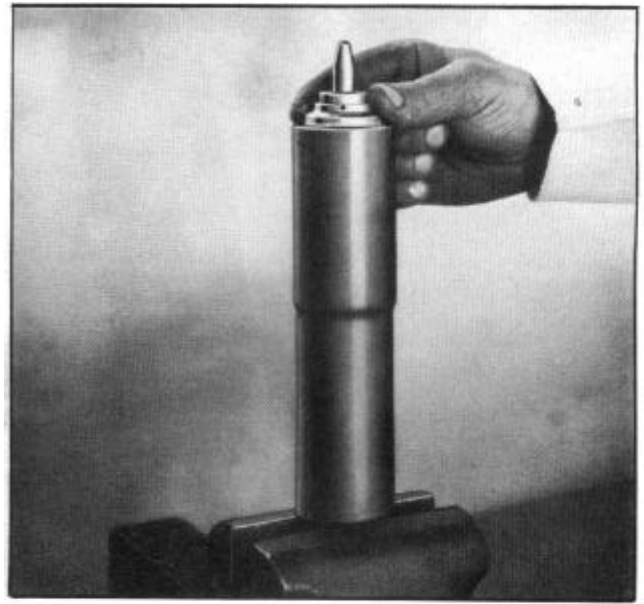

Figure 36--Piston Rod Thimble
2. Screw thimble supplied in shock absorber repair kit onto threaded end of piston rod, Figure 36. This should always be done in order to prevent damaging the piston rod oil seal when reassembling.